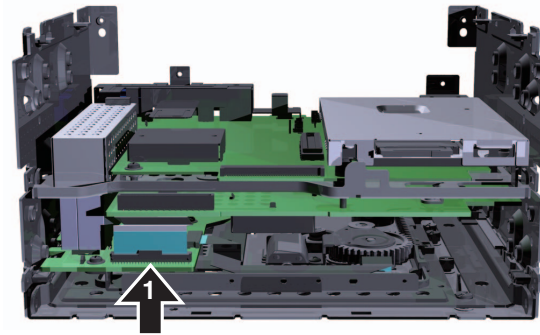

Fig.13
● Removing the Upper and Lower Chassis (Fig.13, 14)
- ➔ 1 Disconnect the FFC.(Fig.13)